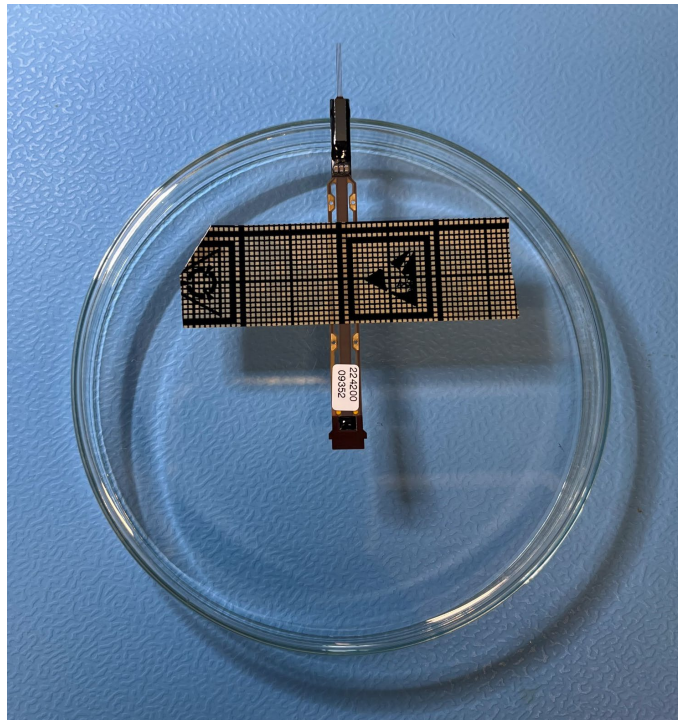

Figure 45: Fixing the probe before soldering.
- Fix the probe to a clean surface. A good method is to use ESD tape. (Figure 45)